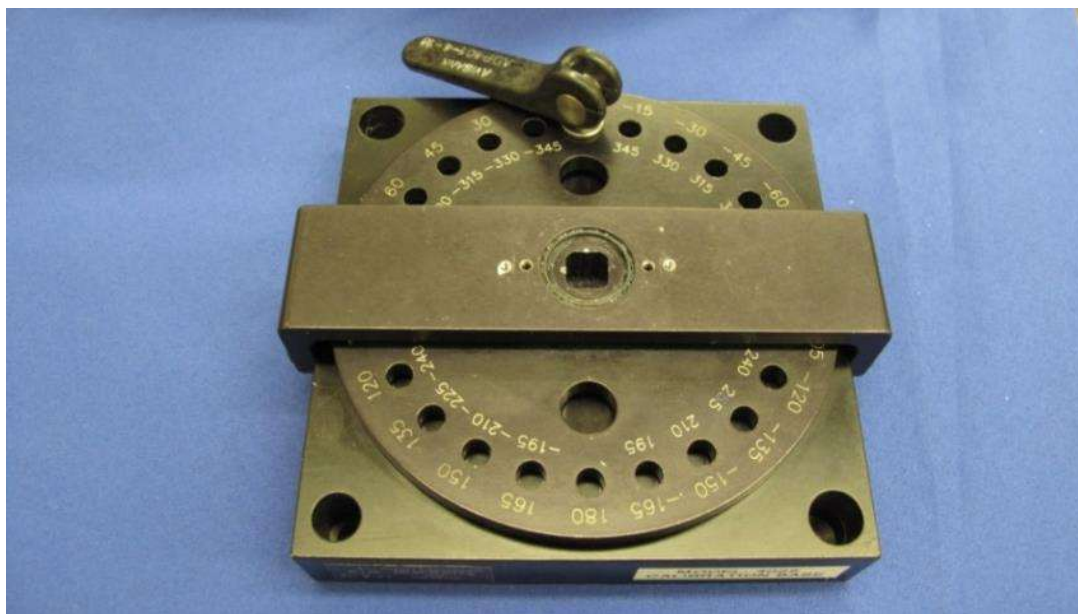

Figure 14-5. Example potentiometer calibration fixture
14.2.1.1 Remove the potentiometer from the double-gimbaled assembly and install it into the rotary potentiometer calibration fixture. A typical rotary potentiometer calibration fixture is shown in Figure 14-5.